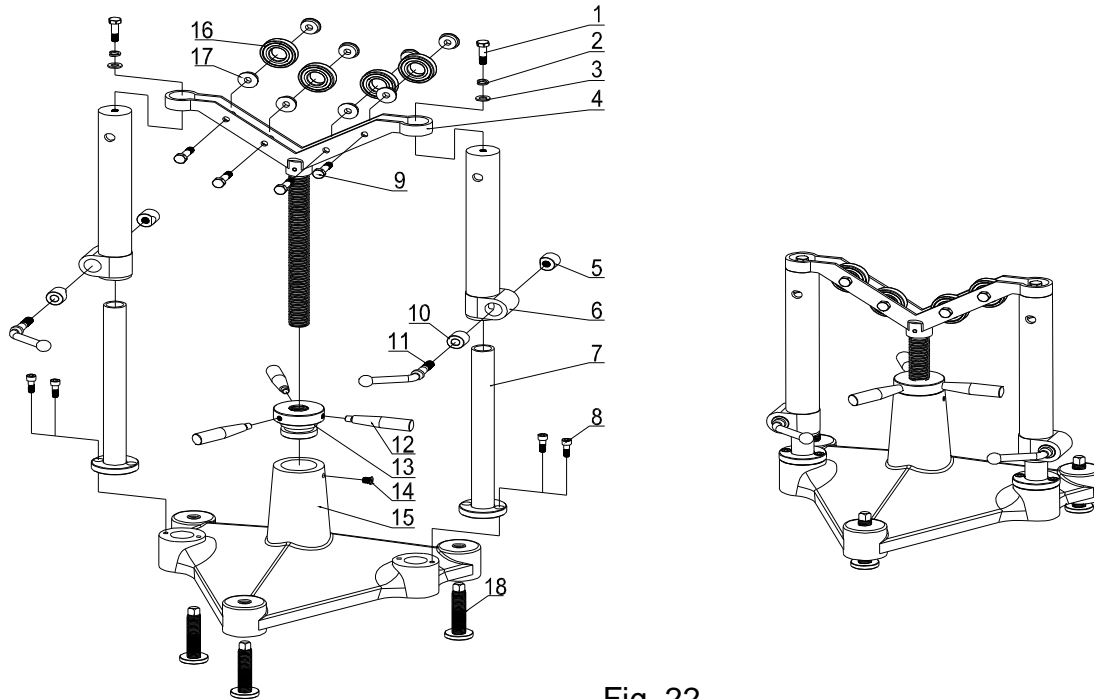

Fig .22
4. Bracket parts form (Fig.22)